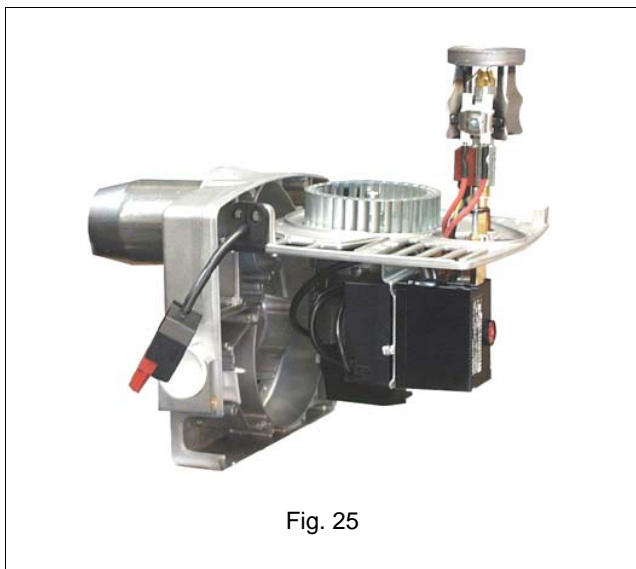

Fig. 25
⚠ In order to remove the nozzle, it is important to use two wrenches as shown in Fig. 25, to avoid damaging the burner component plate!
- 7 Unscrew the V screw that fastens the combustion head and remove the head from the nozzle-holder (Fig. 27 - Fig. 25)